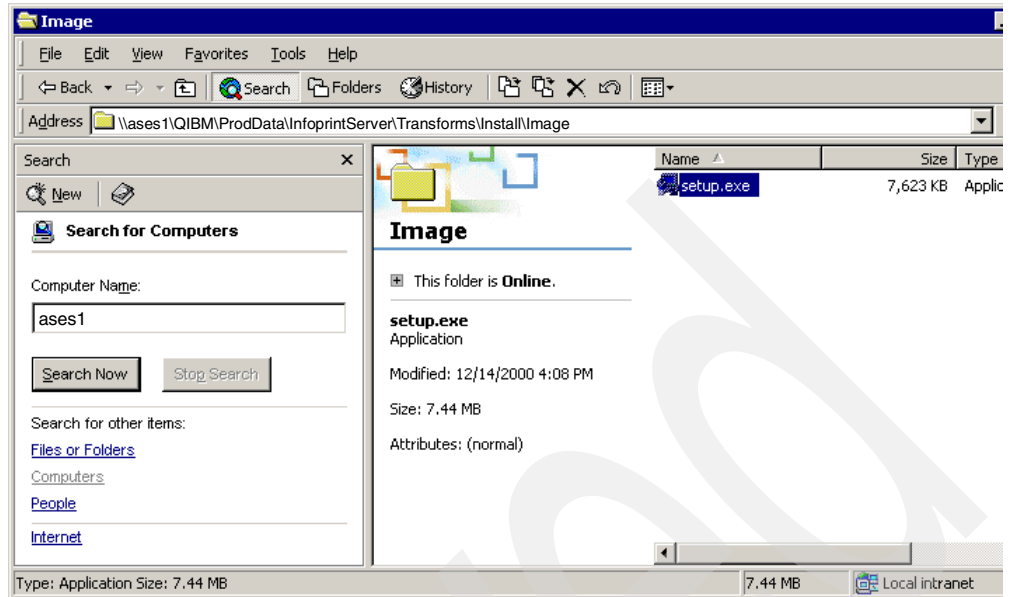

Figure 100. Install Image transform
4. Double-click **setup.exe** as shown in Figure 100 and follow the instructions provided in the installation shield.